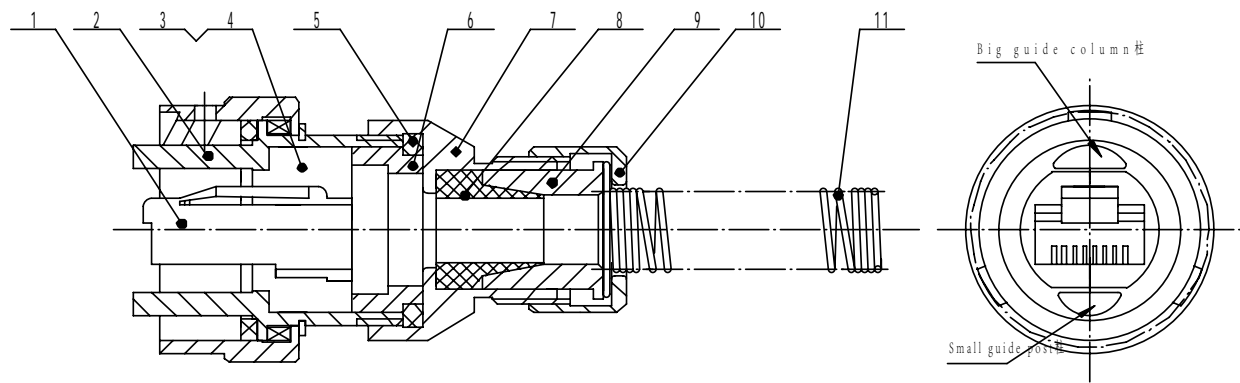

Figure 2 Schematic diagram for assembly of FB series plug
1) Cat 5e network cable should pass through part 11 to part 5 (see the figure 2) and then be crimped in to part 1 crystal head with special tool. Refer to chapter 5 on crimp notes